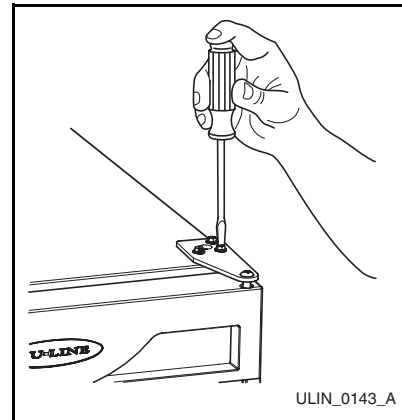

Figure 22
2. Remove top hinge from cabinet (three screws) (**Figure 22**). Hold door to keep it from falling.